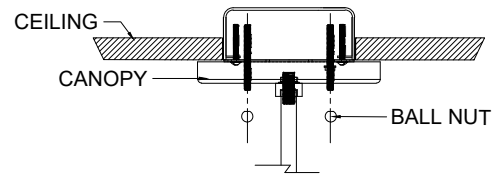

FIGURE-02
8. Lift the fixture and the canopy up and secure it with ball nuts. (See FIGURE-02)